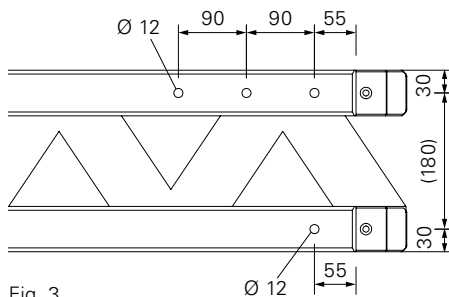

Fig. 3
1. Mark where the holes are to be drilled on the chord of the girder. (Fig. 3)